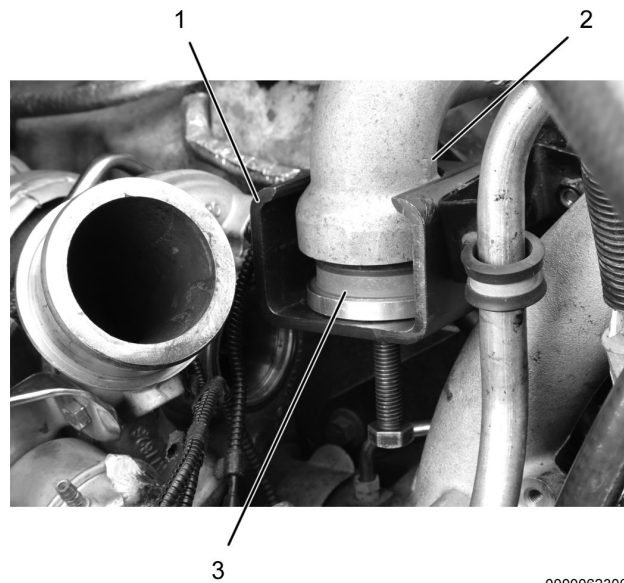

Figure 3. Interstage Cooler Outlet Lip Seal Plate Preparation.
NOTE: Make sure lip seal is properly aligned with ISC outlet (Figure 3, Item 2) opening.
6. Apply P-80[®] or an equivalent lubricant to new ISC outlet lip seal (Figure 3, Item 3).
7. Position ZTSE4937-1A seal Installer into ZTSE4937-4 press (Figure 3, Item 1) with new seal (Figure 3, Item 3).